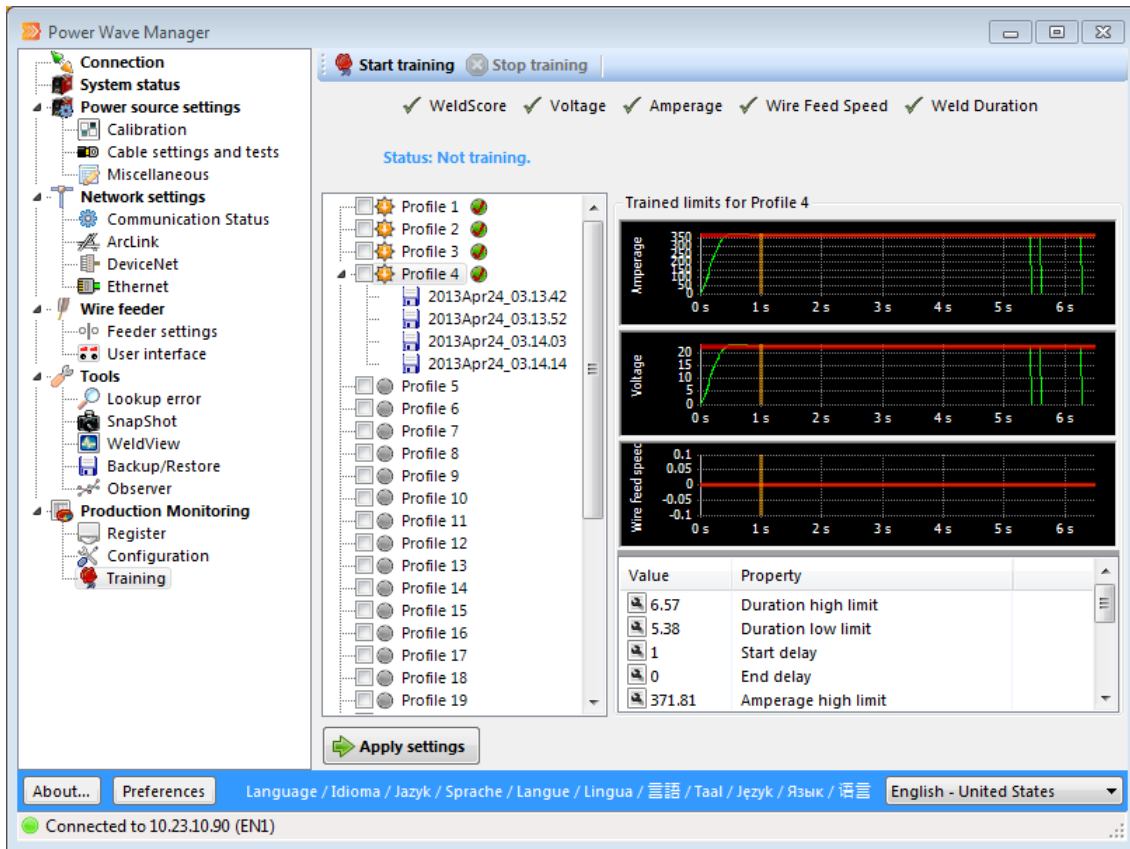

Figure 11.1 Weld Training Window
1. Click Production Monitoring > Training in the navigation tree of Power Wave® Manager.	The Training section opens (Figure 11.1).
8. Click OK when prompted to take the power source out of training mode.	The system finishes processing all the data and displays the information under each Weld Profile (Figure 11.1 on page 11.4).